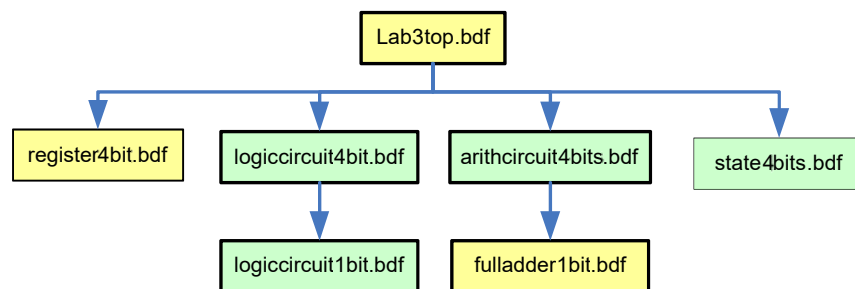

Figure 3: Hierarchy of the files
Since both the input and the output signals of ALU have 4 bits, the most effective way to implement ALU is to devise it in a hierarchical manner. Files on the lowest level are 1-bit *full adder* and 1-bit *logic and shift circuit* (LSC). The intermediate files will consist of a 4-bit *register*, a 4-bit *arithmetic circuit* (AC), a 4-bit *logic and shift circuit* (LSC), and a *state circuit*. Finally, the file at the highest level will cover the complete circuit, loadable to the UP2 board. The relation between these files is shown in figure 3. The parts in yellow will be explained further in this document. For the preparation of this lab, you are required to design and test the circuits coloured in green, i.e., the 1-bit LSC, the 4-bit LSC, the 4-bit AC, and the state circuit.